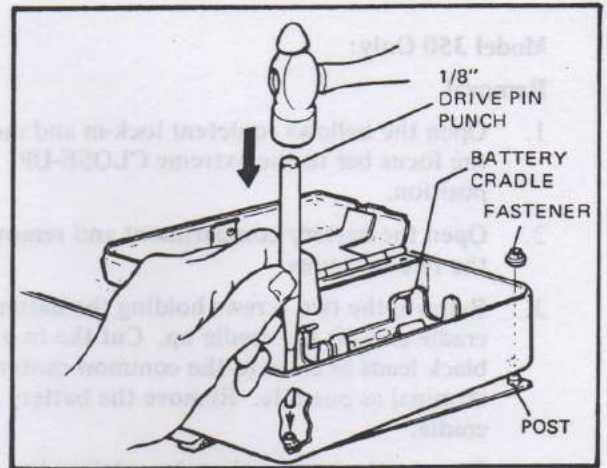

FIG. 5.28 REMOVING THE LEFT HAND GUARD
5. Remove the left hand guard by carefully tapping the posts free of the fasteners using a 1/8" drive pin punch as shown in Figure 5-28.